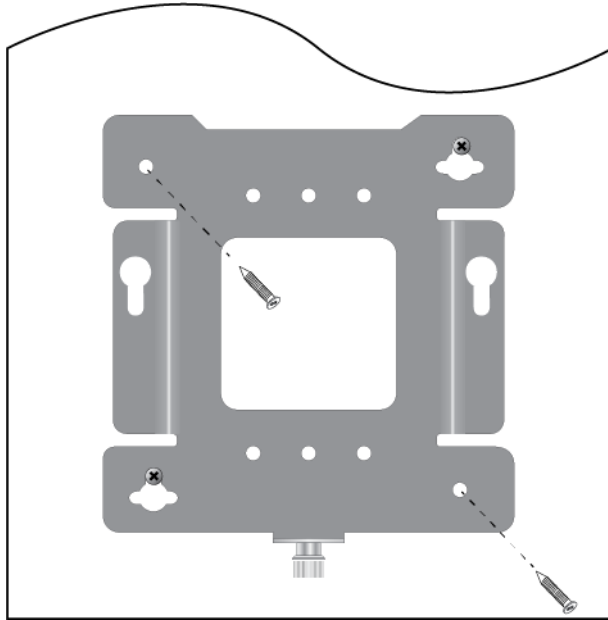

Figure 15. Securing the Mount Bracket
9. Install and tighten two M4 screws (not provided) in the holes prepared in Step 8. Refer to Figure 15. The bracket installation is now complete.